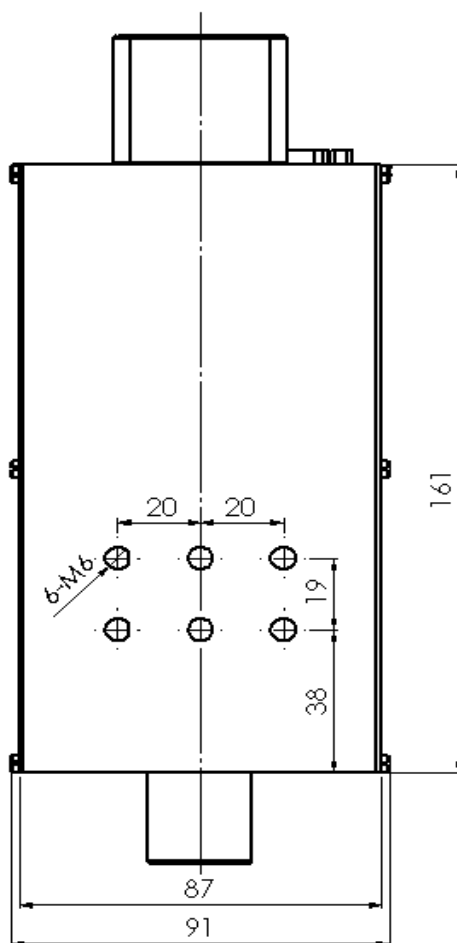

Fig. 3-2 Positions of Installation Screw Holes at Back of Controller
- The 6 pieces of M6 screw holes at back of height controller are used to fix the closure to frame. The positions and dimensions of them are shown in Fig. 3-2.